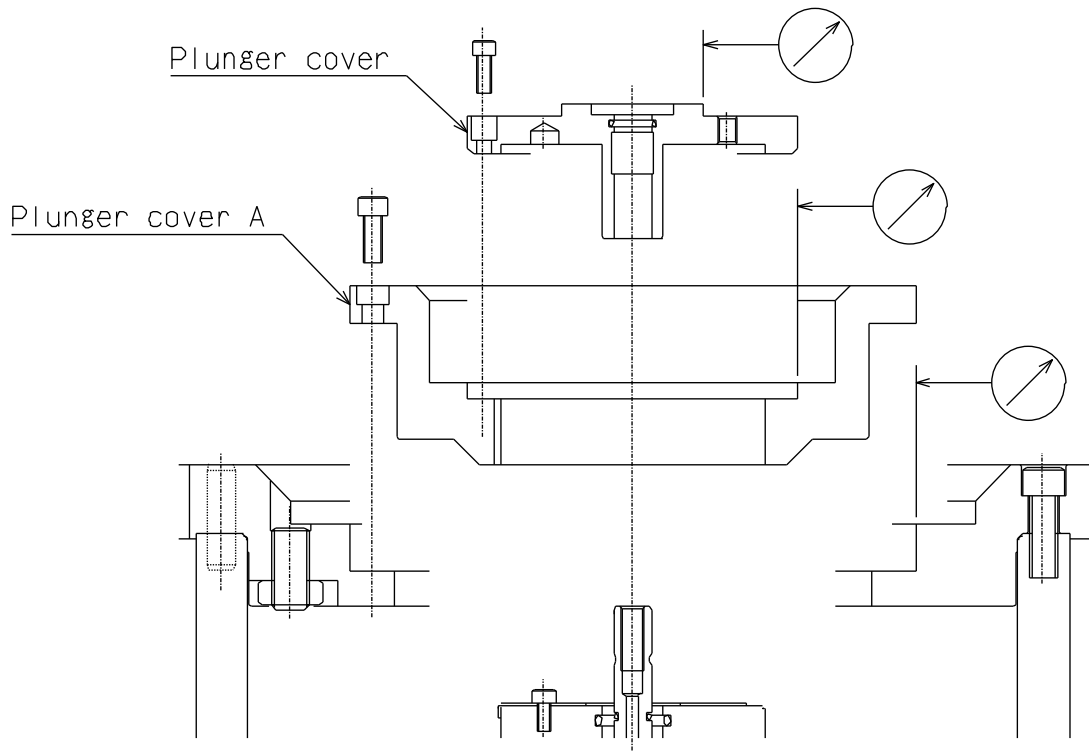

Fig.11
4. Install the body [A] with the socket head cap screws [04]. Adjust so that the runout of diameter is less than 0.02 mm T.I.R. as shown in Fig.11.
5. For the FG52M, FG52MV and FG57M, install the plunger cover A [N] with the socket head cap screws [03]. Adjust so that the runout of diameter is less than 0.02 mm T.I.R. as shown in Fig.11.